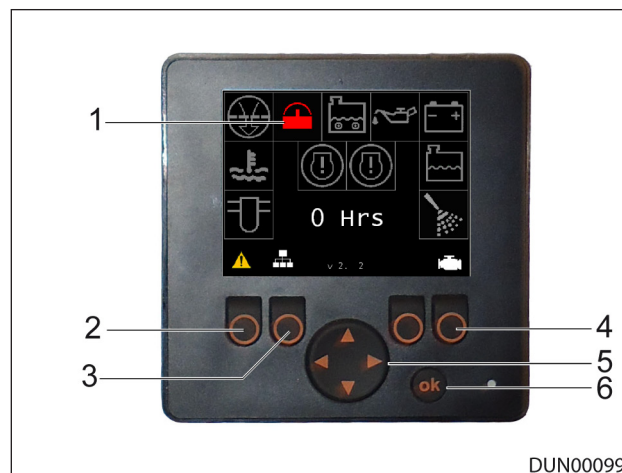
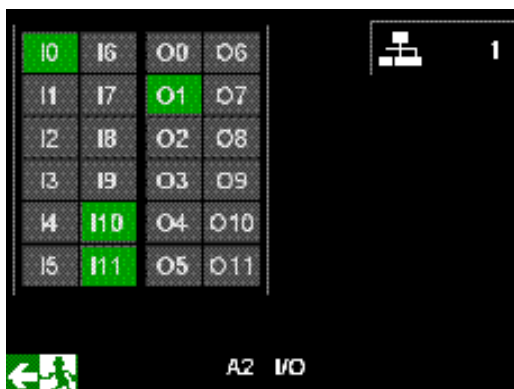

Figure 7.10 - Main Menu Active Fault
Figure 7.15 - Controller Status Screen
3. Press the button under the warning symbol (Item 2) to view the alarm history, Figure 7.10.
4. The last 12 faults are stored in the control panel. Press the right direction button (Item 5) on the panel to scroll through the active faults, Reference: Figure 7.10.
5. To return to the main menu home screen any time press the button under the exit symbol (Item 2), Reference: Figure 7.10.
7. Press the button (Item 2) on the control panel to return to the home screen, Reference: Figure 7.10.
9. Press the button 3 (Reference: Figure 7.10) on the panel to view the machine inputs and outputs, Reference: Figure 7.15.
» The controller status screen showing the input and output connections will be displayed, Reference: Figure 7.15. If there is a communications fault, all of the icons will be shown in grey.
1. Press the button (Item 2) on the control panel to return to the home screen, Reference: Figure 7.10.